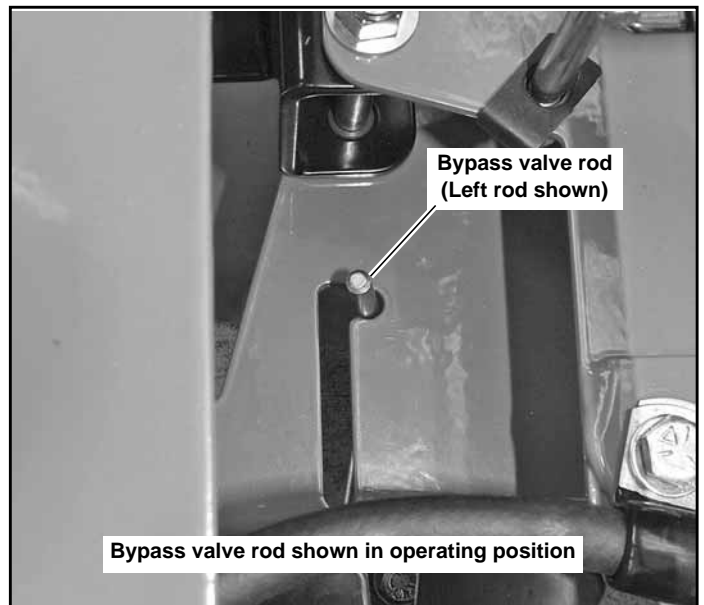

Figure 4-14
3. With the bypass valve open and the engine running, slowly move the directional control in both forward and reverse directions (5 or 6 times). Figure 4-14